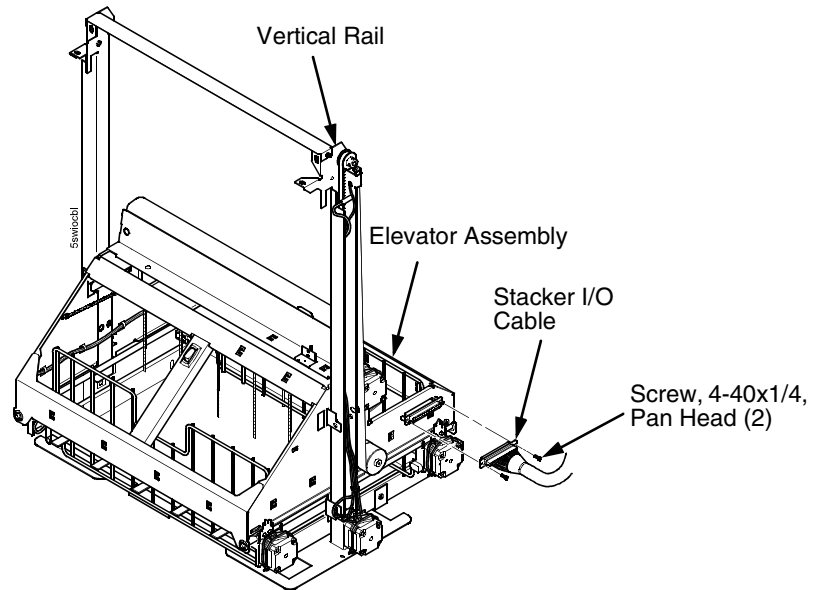

Figure 84. The Elevator I/O Cable
(Figure 84.)
13. Connect the elevator I/O cable to the elevator assembly and install the two 4-40 x 1/4 inch screws, as shown in Figure 84.